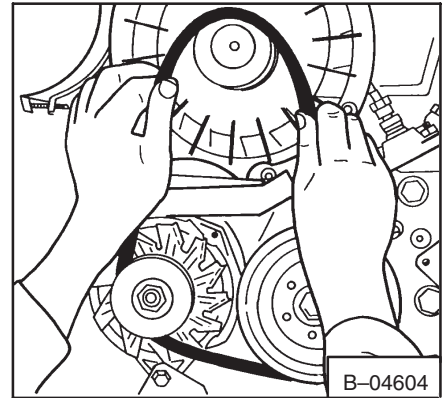

Fig. 7A-27 Removing V-Belts
1. Remove the belt shield and loosen the alternator (Fig. 7A-26) to remove the v-belts (Fig. 7A-27).